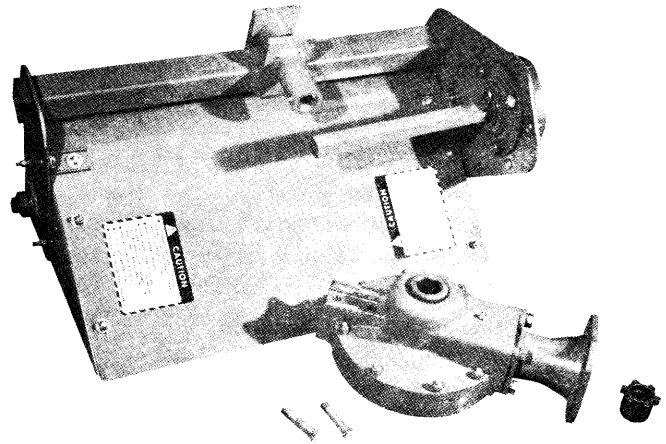

Fig. 3
4. The rotary plow drive will appear as shown in fig. 3 when properly prepared for attaching to the rotary cultivator.